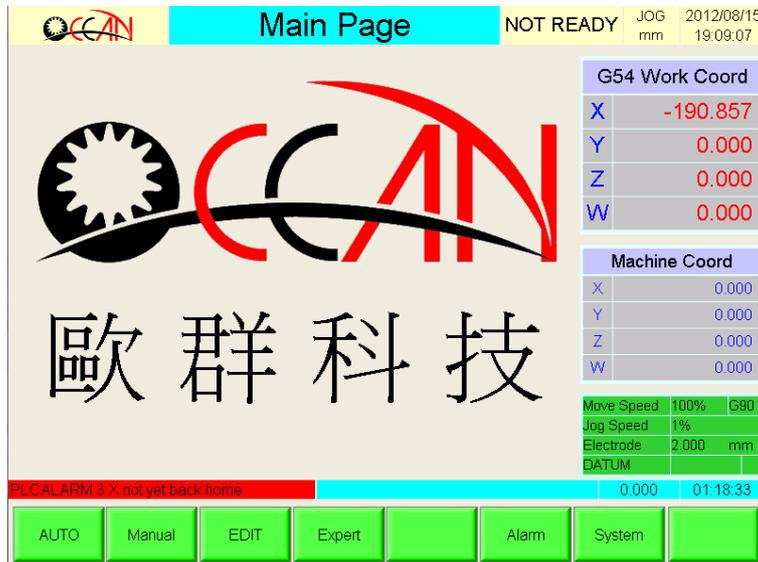

Figure 2-1-3 Manuel Screen
**Note :** If the axis has to finish home search, it will be in the main screen under the machine coordinate axis labelled, to find the origin of the axis unfinished home search, the work coordinates will be displayed in red, as below Fig. 2-1-3.